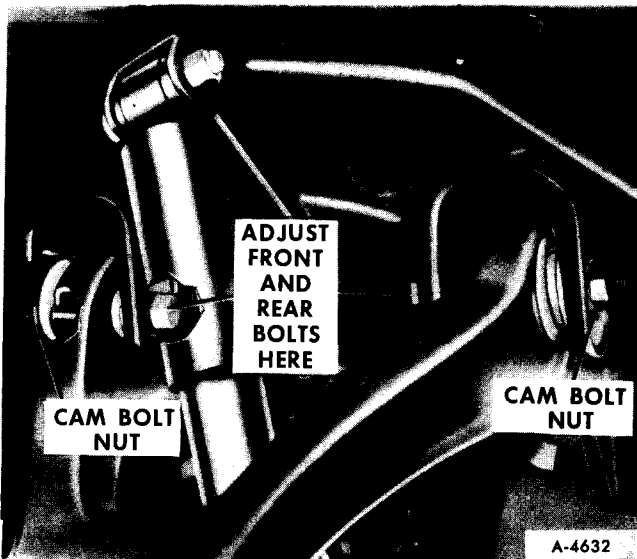

Figure 18—Upper Control Arm Attachment
2. Disconnect upper shock absorber attaching bolt (figure 18).